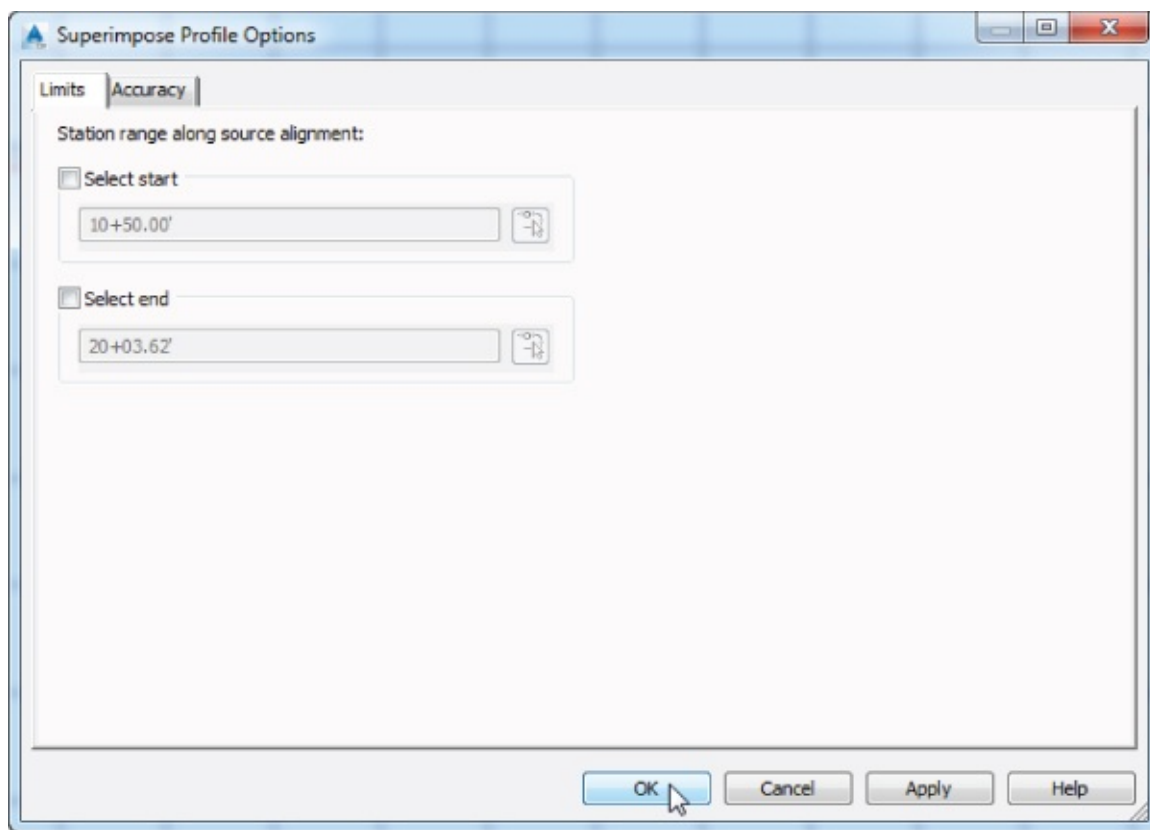

Figure 7.72 The Superimpose Profile Options dialog
4. At the Select destination profile view: prompt, click one of the grid lines in the ROAD C Full Grid profile view to display the Superimpose Profile Options dialog shown in Figure 7.72.